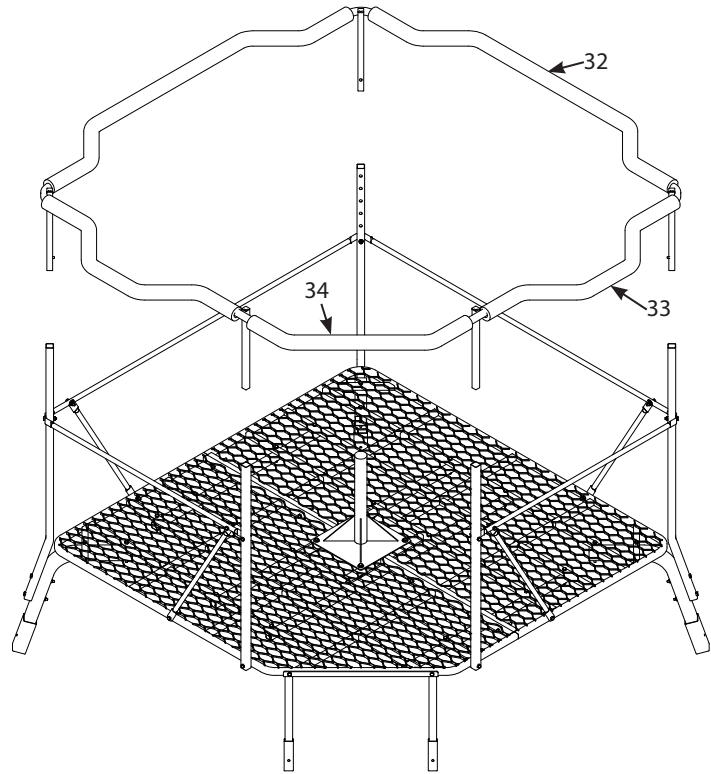

FIGURE 9
9. Attach the assembled shooting rail to the assembled top of the quad pod by inserting the five hubs into the five vertical supports. Secure with the push button pins at the highest height position at this time. **SEE FIGURE 9.** Later, once the quad pod is completely set up, use the push button pins to adjust the height of the shooting rail. Work your way around and move each hub one adjustment hole at a time until you reach the desired height.
Attach the shooting rail pads (32, 33, 34) to the assembled shooting rail by wrapping around the rail and securing with the hook and loop strips. **SEE FIGURE 9.**